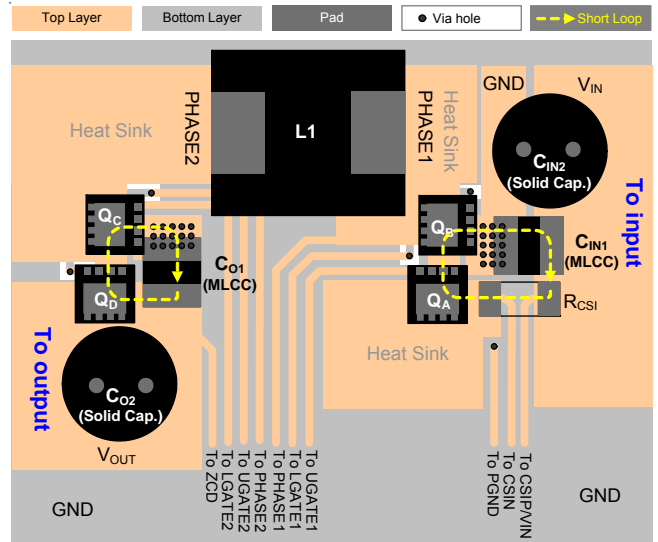

Figure 7. Recommended PCB layout of the power stage
- ▶ Figure 7 is a recommended placement of the PWM Buck-Boost power-stage. Two critical current-loop paths “from  $C_{IN1} \rightarrow R_{CS1} \rightarrow Q_A \rightarrow Q_B$  to  $C_{IN1}$ ” and “from  $C_{O1} \rightarrow Q_D \rightarrow Q_C$  to  $C_{O1}$ ” must be as short as possible to minimize the switching noise at CSIP/VIN, CSIN, PHASE1, PHASE2 and ZCD pins. The short paths also reduce radiated EMI. It's necessary to use an MLCC ( $10\mu F/50V$ , X5R/X7R) for the input capacitor ( $C_{IN1}$ ) and output capacitor ( $C_{O1}$ ). For reducing input and output voltage ripples during heavy load operation, it is recommended to add more MLCCs or solid input and output capacitors. To improve heat dissipation, increase the PCB areas for Drains of high-side and low-side MOSFETs.